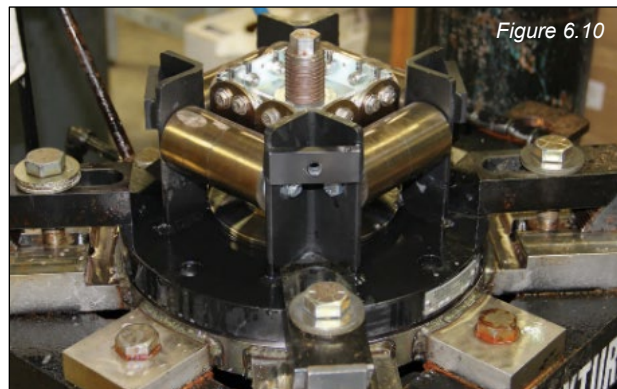

Figure 6.10
- b. If the pressure indicated is above the acceptable AAR tolerance for the valve setting, rotate the adjustment screw counterclockwise and test again. Repeat this process until the desired STD value has been established then record the pressure (*Figure 6.10*).